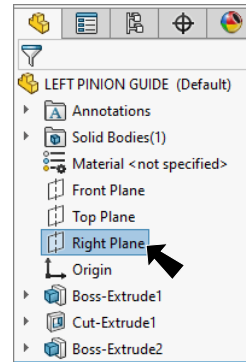

Fig. 1
- Step 2. Click **Right Plane** in the Feature Manager to select the Plane, **Fig. 1**.